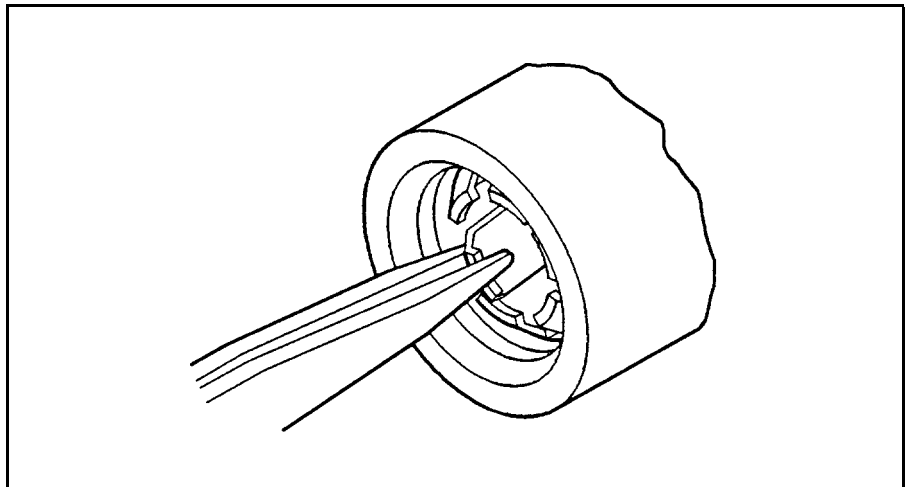

Figure 2-7. Moving a Damaged Finger
- b. If the damaged fingers prevent you from inserting the tool, use the tweezers provided to either move aside or remove the damaged fingers (see Figure 2-7).